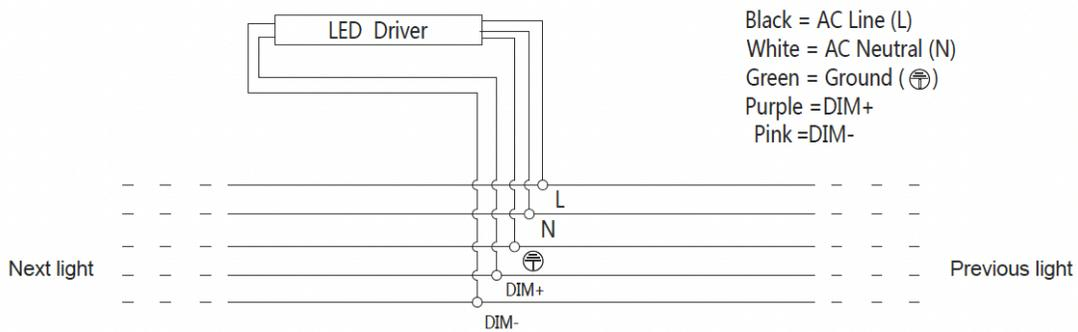

Fig. 19
8. Take the black/white/green wire harness and connect to the existing wire connectors on the input wires of the driver respectively. When using the dimming function, take the purple and pink wire harness and make connection to the driver (Fig. 19 & 20).
11. Take the black/white/green wire harness and connect to the existing wire connectors on the input wires of the driver respectively. When using the dimming function, take the purple and pink wire harness and make connection to the driver (Fig. 19 & 20).